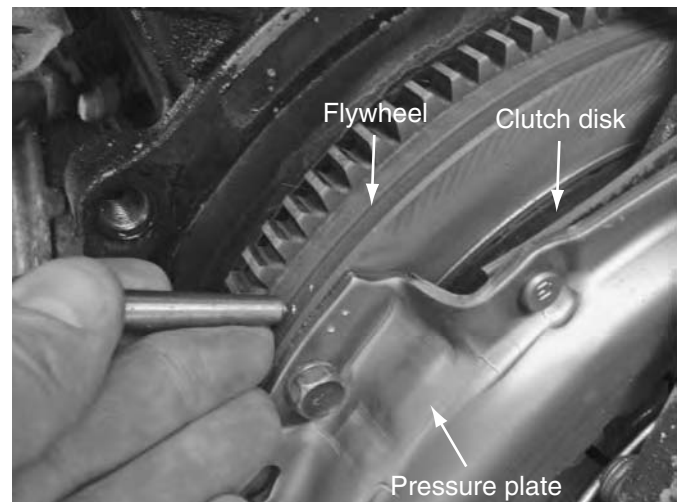

FIGURE 4.54 Marking the flywheel and pressure plate. (Courtesy of Tim Gilles)
1. **Remove clutch parts.** If the engine is equipped with a standard transmission, remove the transmission and bell housing before installing the engine stand mounting head. Remove the clutch pressure plate (**Figure 4.53**). If the pressure plate is the original one and will be reused, mark it so it can be replaced with its original orientation to the flywheel and crankshaft (**Figure 4.54**). The pressure plate and engine were balanced together at the factory and although this is not crucial, it is